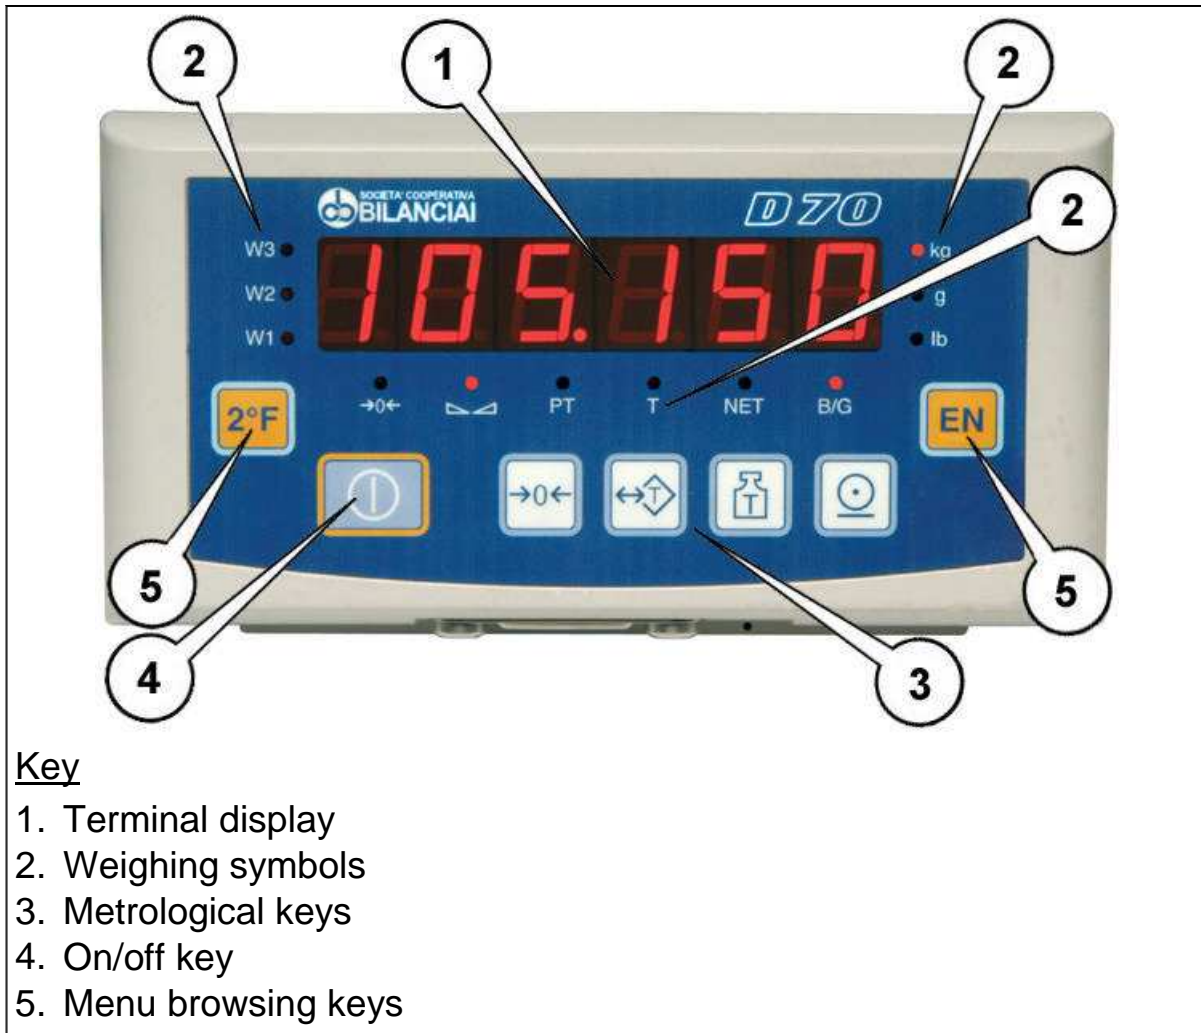

Figure 4.1 - Front of terminal (citi1209.jpg)
Refer to Figure 4.1 on page 1-35 :
- ✓ Press key  on the front of the terminal (see Figure 4.1 on page 1-35).